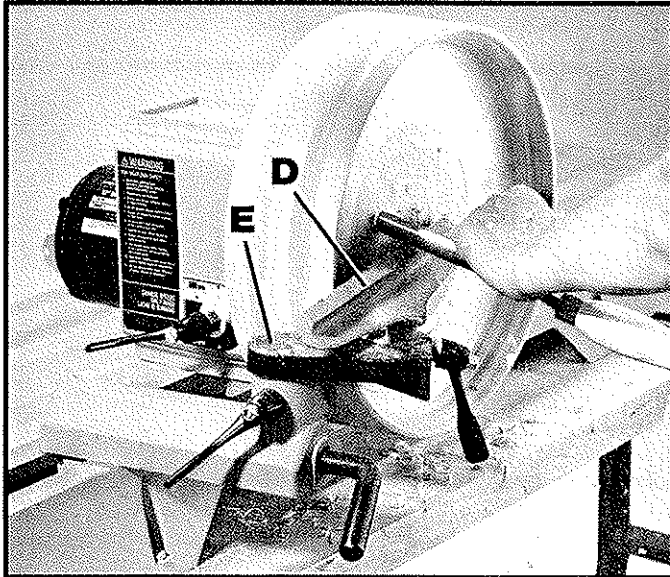

Fig. 84
4. Fig. 84, illustrates the standard equipment tool rest (D) being used along with the accessory 46-706 off-set base extension (E) to perform the inside turning operation.